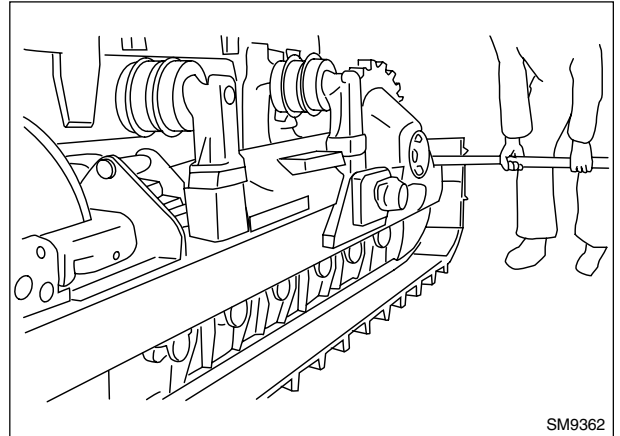

Fig. 5-9
1. Position the track chain so that the junction point is corresponding to the sprocket (fig. 5-9).